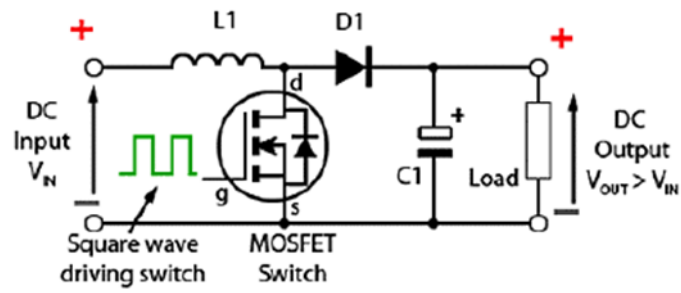

Figure B1.3
- d. Discuss the operation of the 'boost' converter shown in Figure B1.3.